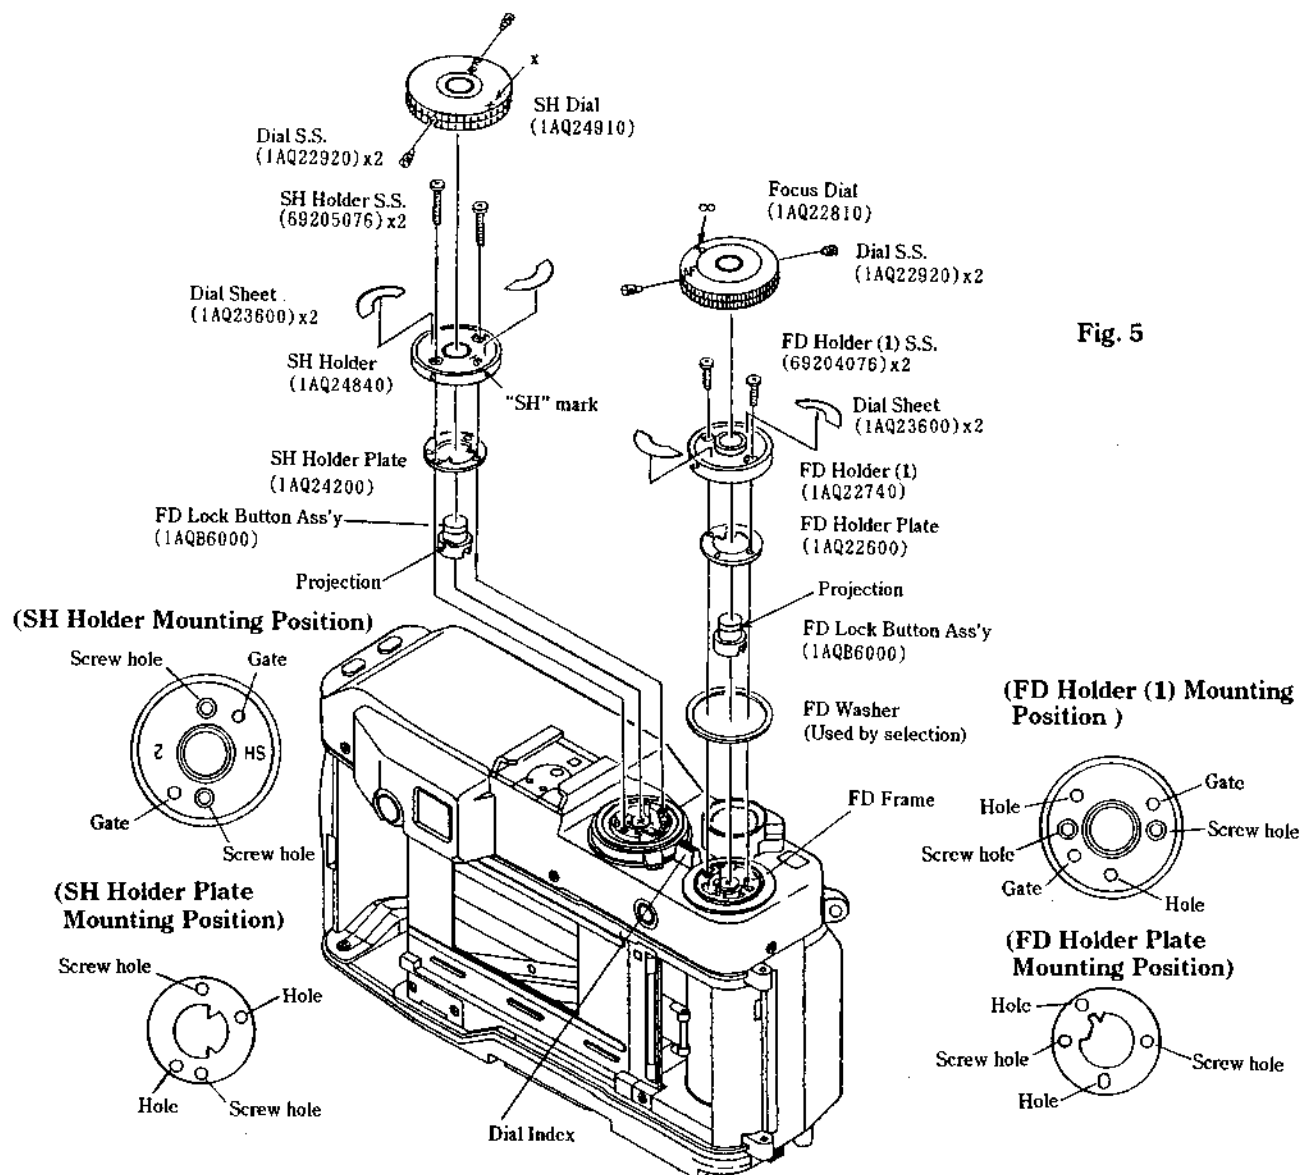

Fig. 5
- 4) Install the FD Lock Button Ass'y (1AQB6000) with its projection toward the rear of the Body. Then install the SH Holder plate (1AQ24200) as shown in Fig.5.
- 8) Install the FD Lock Button Ass'y (1AQB6000) with its projection toward the front of the Body. Then install the FD Holder Plate (1AQ22600) as shown in Fig. 5.
- 9) Install the FD Holder (1) (1AQ22740) as shown in Fig. 5 and tighten the FD Holder (1) Setscrews (69204076)×2. Stick the Dial Sheet (1AQ23600)×2 on the FD Holder.